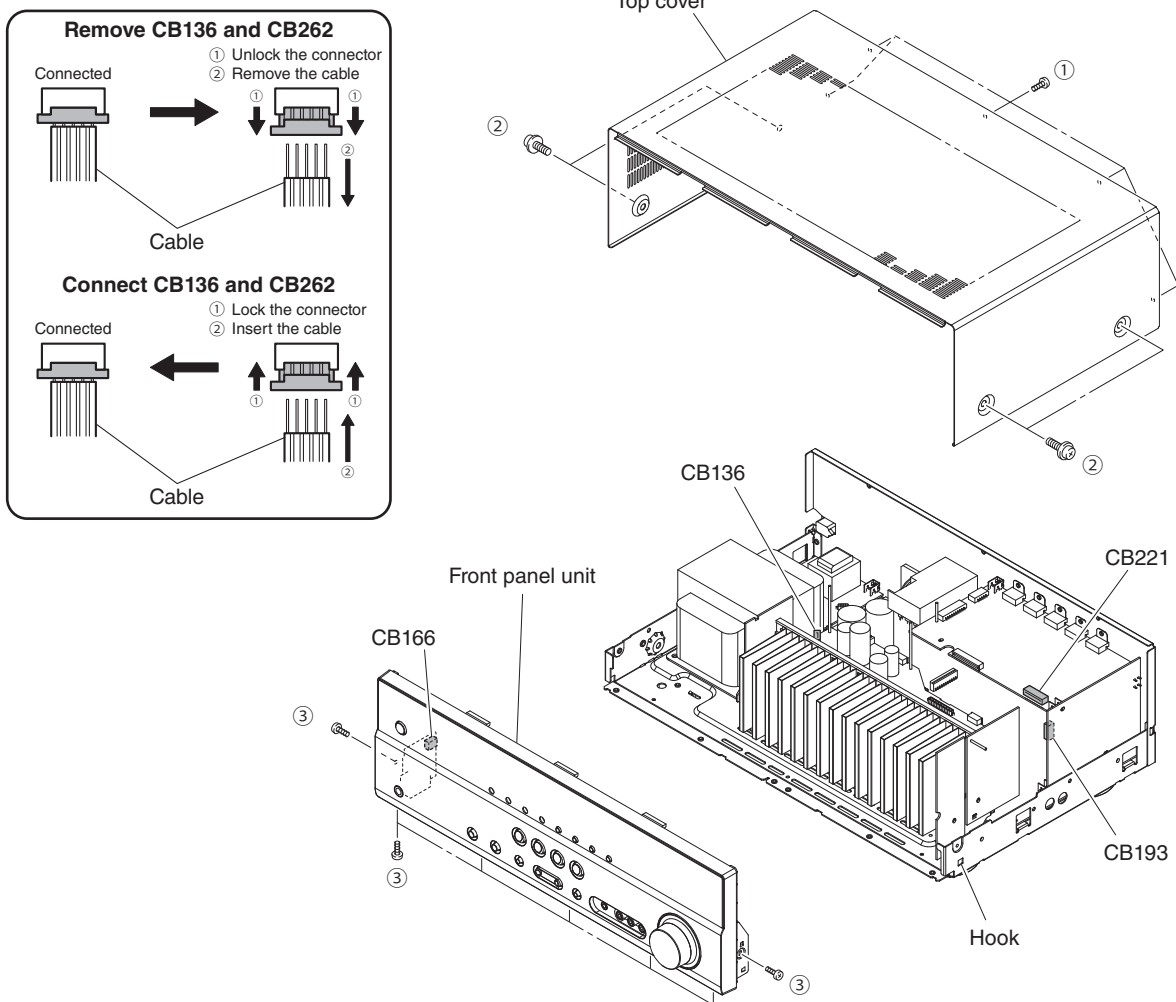

Fig. 1
- Remove 5 screws (①) and 4 screws (②). (Fig. 1)
- Slide the top cover rearward to remove it. (Fig. 1)
- Remove 7 screws (③). (Fig. 1)
- Remove CB166, CB193 and CB221. (Fig. 1)
- Unlock and remove CB136. (Fig. 1)
- Release hook, and remove the front panel unit. (Fig. 1)